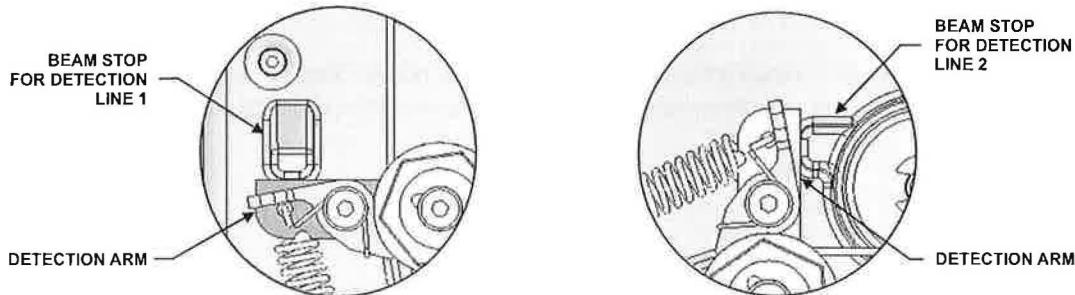

Figure 4-83. Detection Beam Stops
3. Using a 7/8-inch socket (or equivalent), carefully ratchet up the slack in the control cable lines (see Figure 4-83). Tighten the line until the beam reaches the stop. **Do not overtighten.**